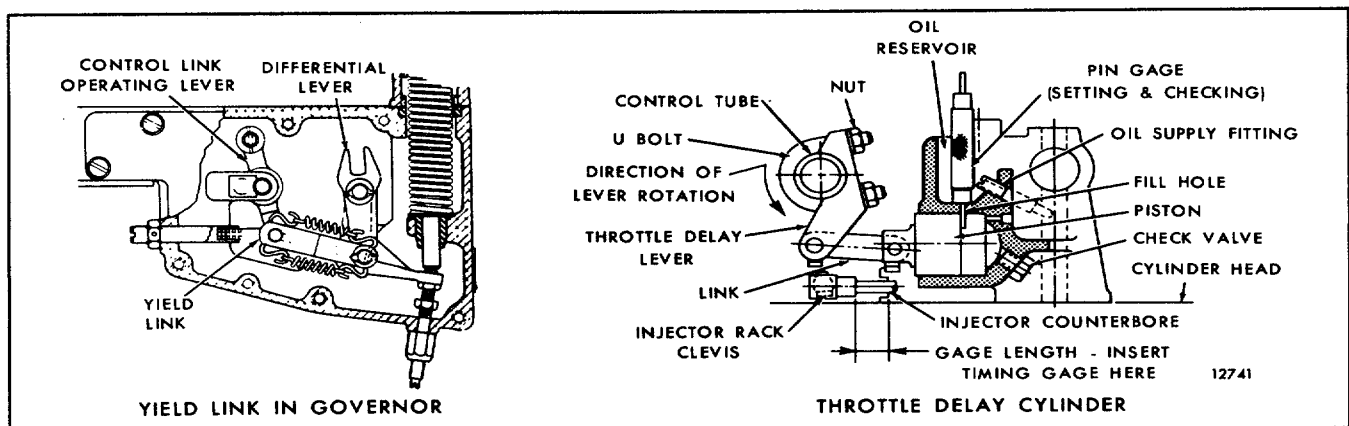

Fig. 2. - Yield Link and Throttle Delay Cylinder
The throttle delay mechanism is installed between the No. 1 and No. 2 cylinders on the right-bank cylinder head (Fig. 2). It consists of a special rocker arm shaft bracket (which incorporates the throttle delay cylinder), a piston, throttle delay lever, connecting link, orifice plug, ball check valve and U-bolt.
1. Disconnect the throttle delay mechanism by loosening the U-bolt which clamps the lever to the injector control tube (Fig. 2).
shoulder on the injector rack clevis (Fig. 2). This is the No. 2 injector on 6V-92 and 8V-92 engines, the No. 5 injector on 12V-92 engines and the No. 6 injector on 16V-92 engines.
6. Rotate the throttle delay lever in the direction shown in Fig. 2 until further movement is limited by the piston contacting the pin gage.